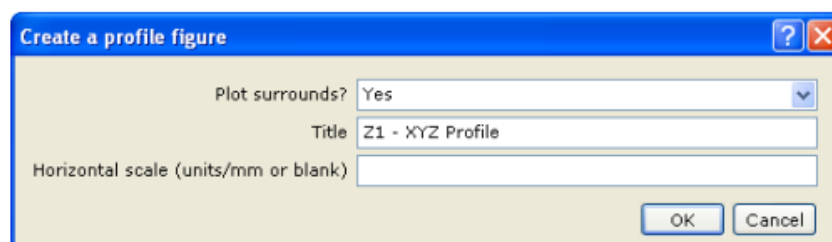

Figure 1.76. – Create a profile figure window
1. On the *Profile* popup menu, select *Plot Profile Figure*. The *Create a profile figure* dialog is displayed, fig. 1.76.